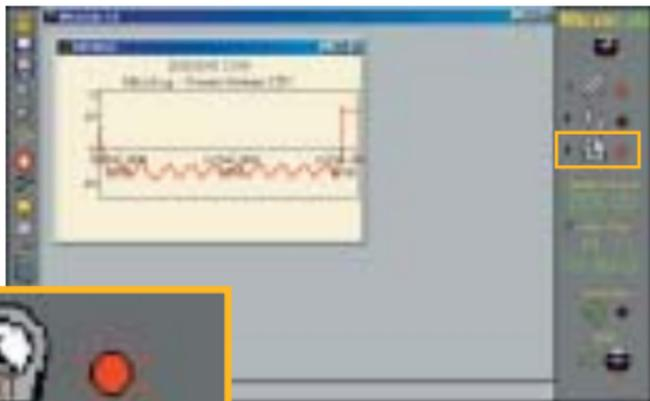

fig. 3
4. Activate the MicroLog external sensor by clicking on the Sensor Selection button next to the external sensor on the right-hand toolbar (fig. 3).
Select the small rectangle near the External sensor icon (fig. 3) In case you are using the sensor to measure voltage, use the sensor's default parameters: Name = Voltage, Unit = V and Calibration Values = 0 and 10 Volts.